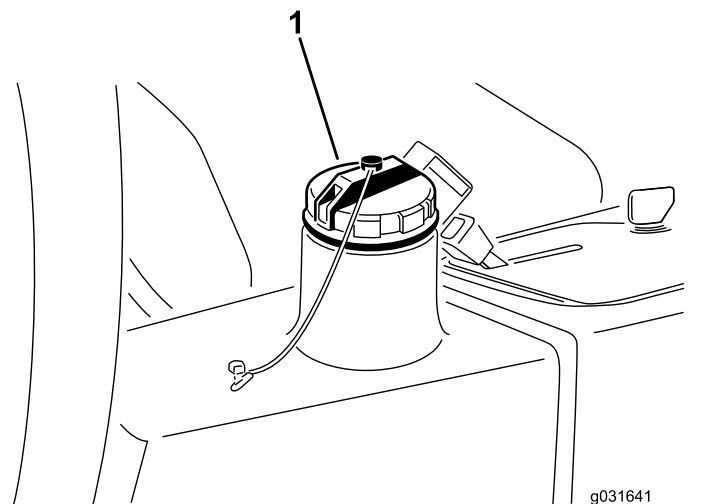

Figure 62
4. Fill the reservoir (Figure 62) with approximately 13.2 L (3.5 US gallons) of hydraulic fluid; refer to Checking the Hydraulic System (page 47).